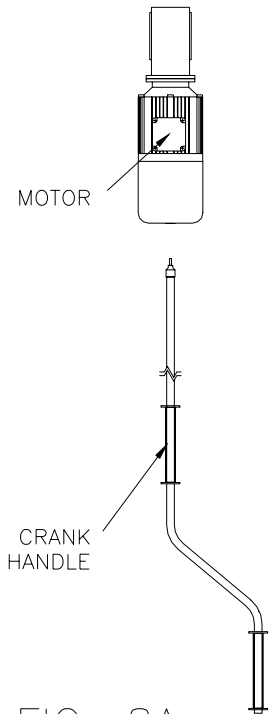

FIG. 8A
- a. **Align Motor Output Shaft keyway with Fabric Roll Shaft keyway (Figure 8a).**